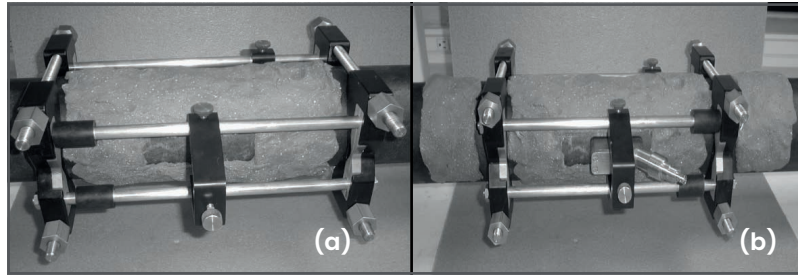

Figure 41: Clearing DMP-3 from the Transducer Location (a) and Installing the Transducers (b)
8. Remove the DMP-3 material from the transducer locations (*Figure 41*).